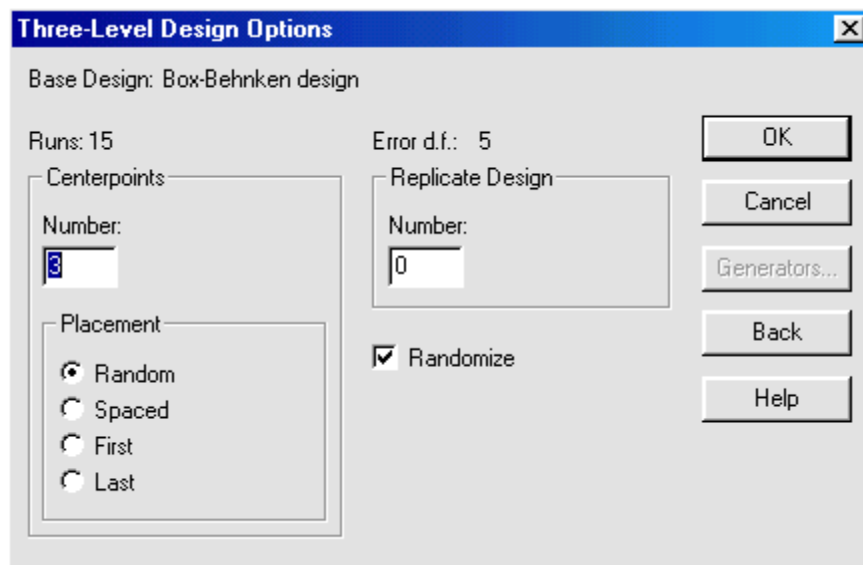

Figure 4-5. Three-Level Design Options Dialog Box
9. Click OK to display one of three Design Options dialog boxes: Three-Level, Composite, or a Blocked Composite (see Figures 4-5, 4-6, and 4-7, respectively). The dialog box that displays depends on the design choice.